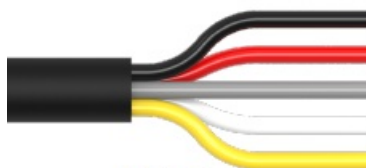

FIG. 3
6. See Fig. 3 for individual wire functions. Refer to the perimeter strobe light instructions to program the RED , GREY and WHITE wires to desired strobe patterns.